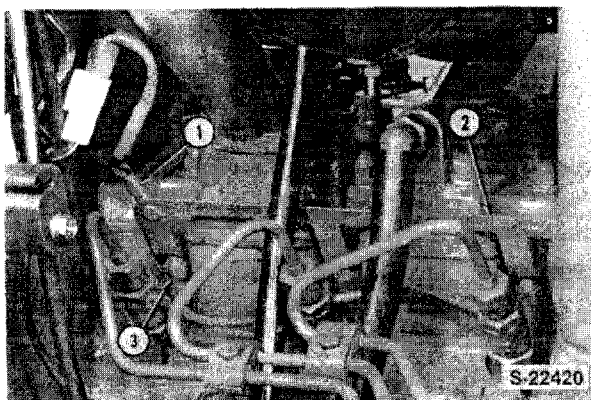

Figure 13
1. Remove the nut, lock washer and flat washer attaching the parallel connector to the glow plug, Figure 13.